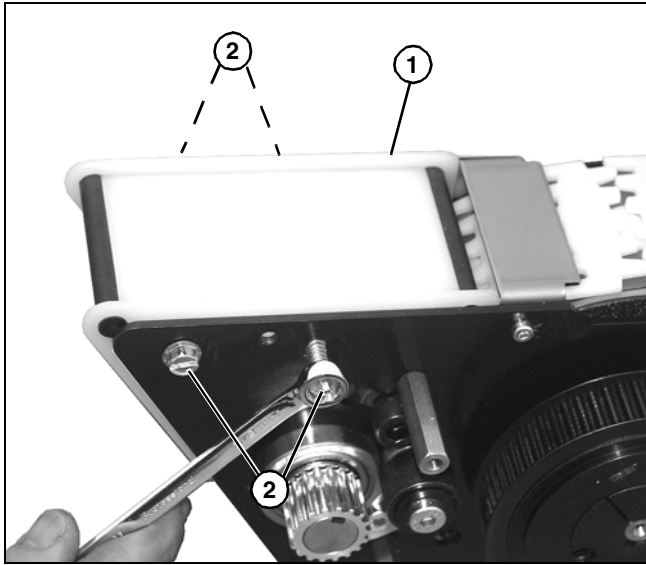

Figure 105
4. Install wear bar assembly (Figure 105, item 1) with four bolts (Figure 105, item 2).